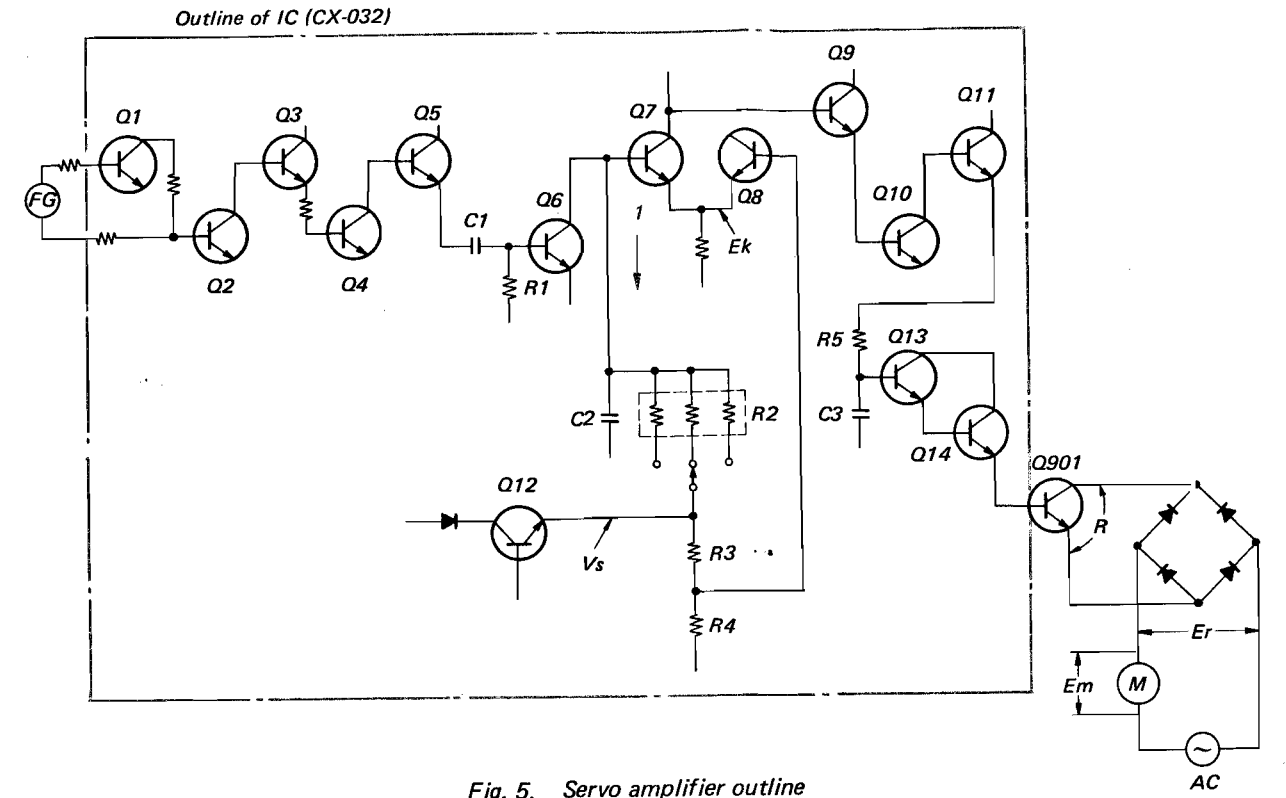
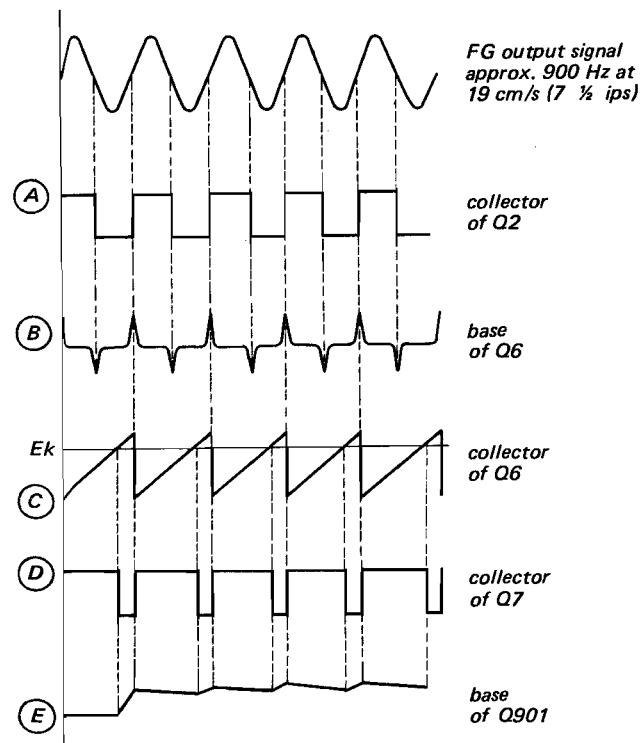

Fig. 5. Servo amplifier outline
Fig. 6. Waveform at each point
Servo amplifier which changes impedance  $R$  operates as follows: See Fig. 5 and Fig. 6.
- 1) Sine wave signal generated by frequency generator  $FG$  is transferred to bases of  $Q1$  and  $Q2$ . Since base bias voltages of  $Q1$  and  $Q2$  are set to saturation region, sine wave signal is wavelined to square wave signal shown by (A) in Fig. 6.
- 2) Square wave signal from  $Q2$  is amplified by  $Q3$ ,  $Q4$  and  $Q5$ . It is transferred to differentiating circuit comprising  $C1$  and  $R1$  and is wavelined to pulse shown by (B) in Fig. 6. Then it is transferred to base of  $Q6$ .
- 4)  $V_s$  also charges  $C2$  according to the time constant decided by  $C2$  and  $R2$ . The charged voltage is applied to collector of  $Q6$ . When pulse shown by (B) in Fig. 6 is transferred to base of  $Q6$ ,  $Q6$  repeats ON and OFF states.  $C2$  discharges while  $Q6$  makes current flow as shown by the arrow (1) in Fig. 5. Thus sawtooth wave signal shown by (C) in Fig. 6 is obtained at collector of  $Q6$ .
- 5) The sawtooth wave signal is supplied to base of  $Q7$ . Since the emitter voltage  $E_k$  is kept constant,  $Q7$  turns ON only when the peak value of sawtooth wave signal is greater than  $E_k$ . When  $Q7$  turns ON, the negative pulse shown by (D) in Fig. 6, appears at collector of  $Q7$ .
- 6) This pulse is amplified by  $Q9$ ,  $Q10$  and  $Q11$ , and its polarity is inverted. The positive pulse is transferred to the integrator comprising  $R5$  and  $C3$ , and is wavelined as shown by (E) in Fig. 6. After being amplified by  $Q13$  and  $Q14$ , it is transferred to base of  $Q901$ . And this base voltage changes impedance between collector and emitter of  $Q901$  and controls motor speed.